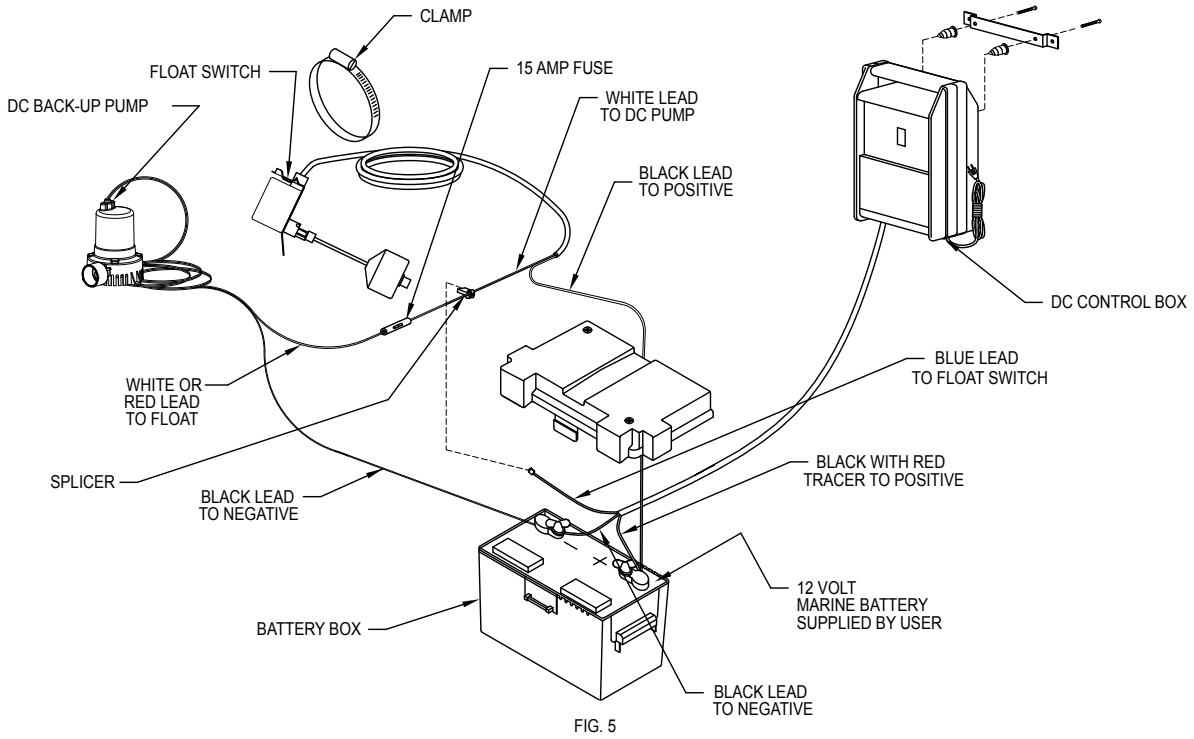

FIGURE 3
13. Install DC control charger (see figure 3) by using the wall bracket and anchors provided. If more convenient, the control charger may be set on a nearby shelf or ledge. The control charger should be located 3 or 4 ft. above the sump. To reduce noise from vibration, it is recommended that the charger be anchored with the wall bracket provided.
15. Connect the black lead from the pump to the negative (-) battery terminal. Connect the white or red lead from the pump to the white lead from the switch. This connection is made at the fuse installed on the switch wire (see figure 3). Connect the black lead from the switch to the positive (+) battery terminal.
16. Connect the blue sensor wire to the sensor connector (figure 3).